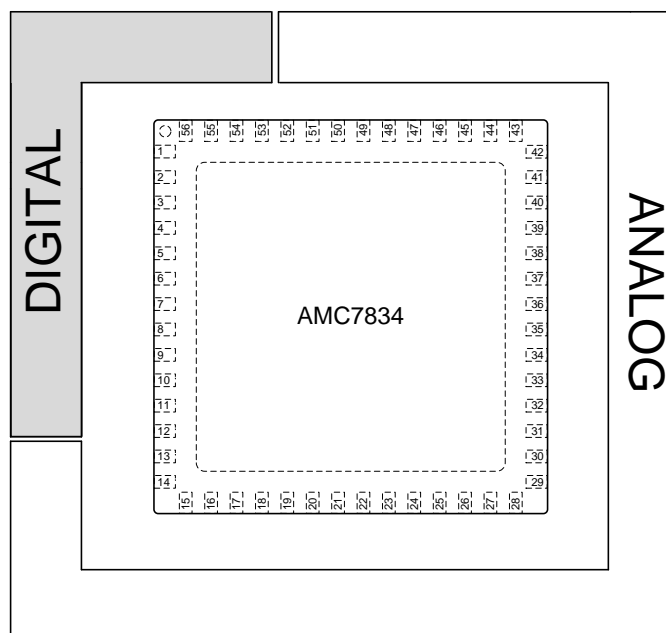

图 110. AMC7834 Example Board Layout — Component Placement
- The digital and analog sections should have proper placement with respect to the digital pins and analog pins of the AMC7834 device (see Figure 110). The separation of analog and digital blocks allows for better design and practice as it ensures less coupling into neighboring blocks and minimizes the interaction between analog and digital return currents.